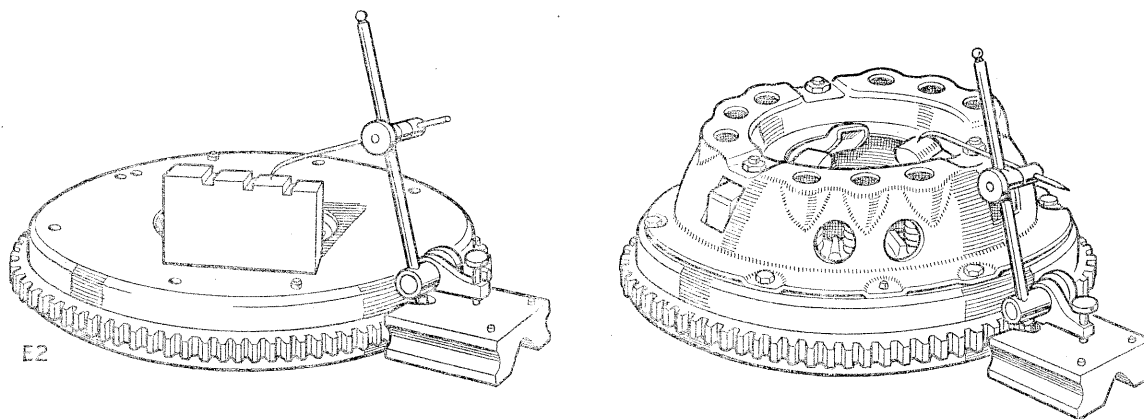

Fig. B-3—Setting the operating levers
1. The setting of the clutch release levers is checked, using  $\frac{3}{8}$  in. (9,5 mm) distance pieces in place of the driven plate. The levers must be adjusted to a dimension of 1.655 in. (42 mm) from the flywheel face, with a maximum of .010 in. (0,25 mm) difference in height between the three levers. (Fig. B-3).